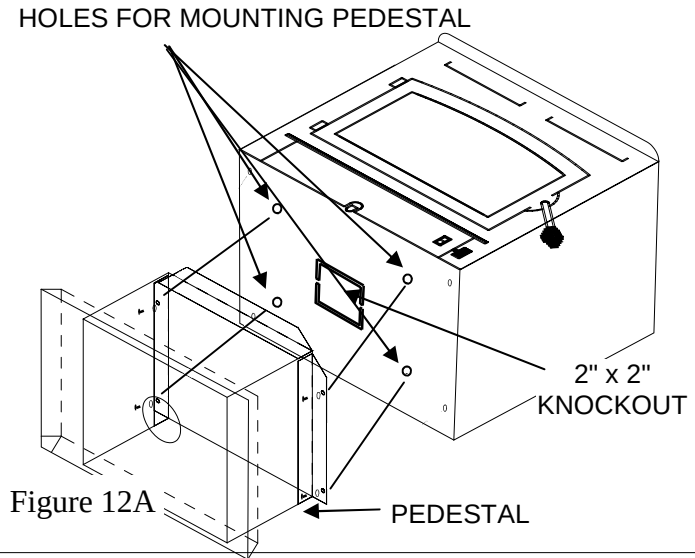

Figure 12A
6. **(Pedestal Kit):** If pedestal kit is being used (**and outside air is required see below, Out Side Air Installation**). Before attaching heater to stand, take a large flat screwdriver or pliers and remove the 2" x 2" knockout on bottom of unit. (See Figure 12A). Open freestanding kit and obtain stand. Place stand against bottom of heater (angle side to heater). Center stand front to rear and also center stand left and right. Mark screw locations on bottom of stove through outer holes of stand mounting angles. Set stand aside and drill four 7/32" holes in heater bottom. Then mount stand to bottom of heater with screws provided. (See Figure 12A).
7. Obtain four (4) 3/16" self-tapping screws and secure stand to heater.